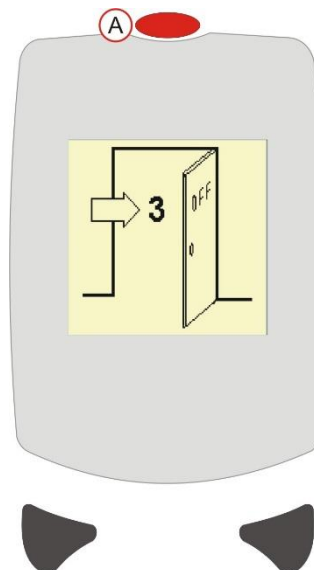

Figure 14 Switch OFF
When the required measurements have been taken, press and hold the Power Key, refer to Figure 14 (A) for three seconds to switch OFF the instrument. A 'door' display will be shown counting down 3, 2, 1.